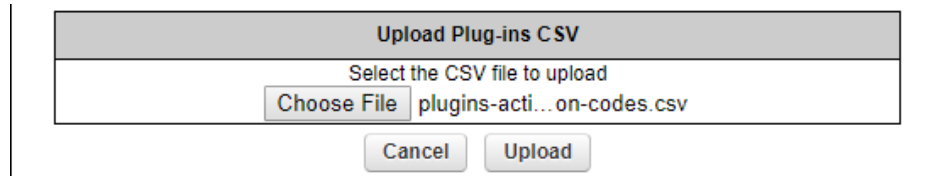

Figure 73. MANAGE PLUG-INS DIALOG (Upload Plug-ins CSV section)
7. Upload the *.CSV file to the unit by clicking the **Choose File** button in the **Upload Plug-ins CSV** section (Figure 73 (page 163)) and following the software prompts.